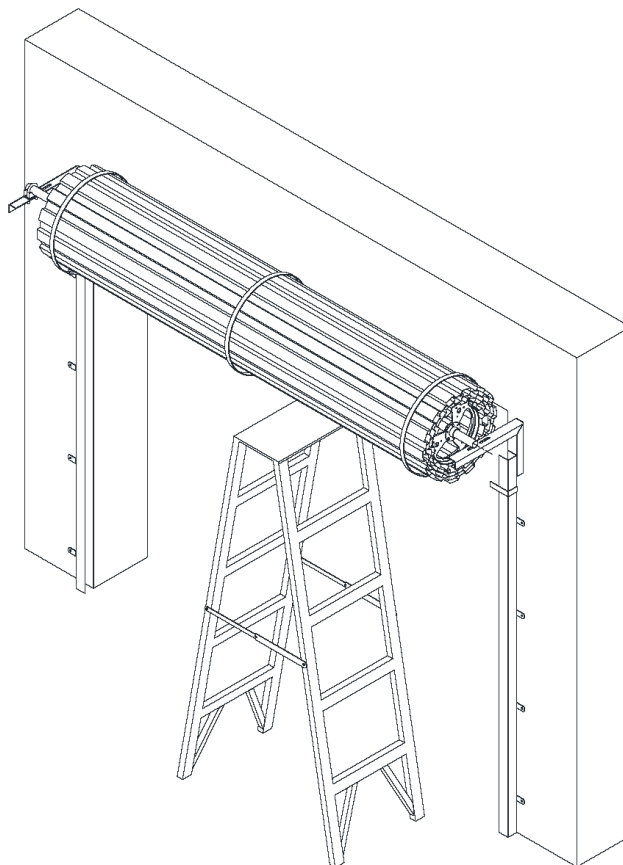

Fig: 2
- c) Support the right hand end of the door with a suitable prop, e.g. step ladder and soft padding to protect the door surface (Fig. 2)